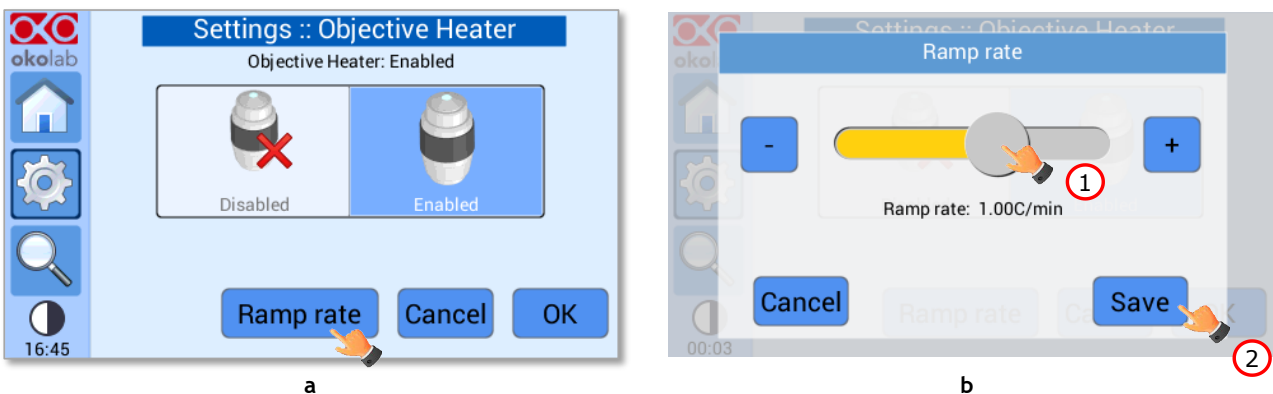

Figure 44. Settings – Obj. Heater – Ramp rate (a – b).
1. By pressing on *Ramp Rate* button, the submenu in Figure 44 b will appear. Use the slide bar or the + and – icons to select the maximum heating rate (in °C/min) for the Objective Heater and press *Save* to confirm.